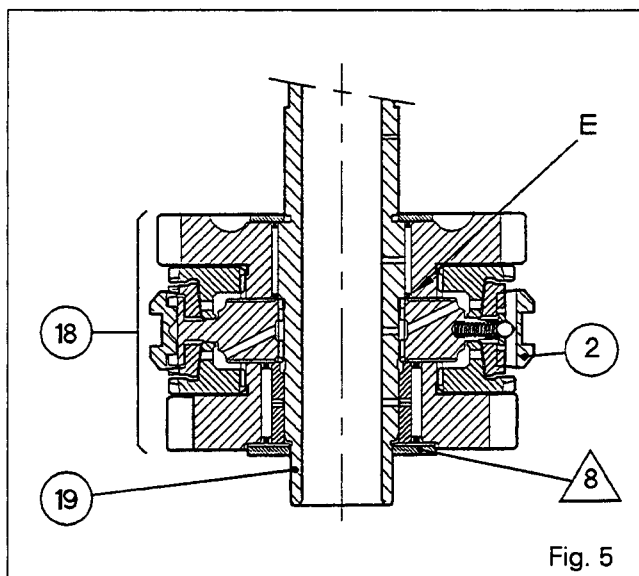
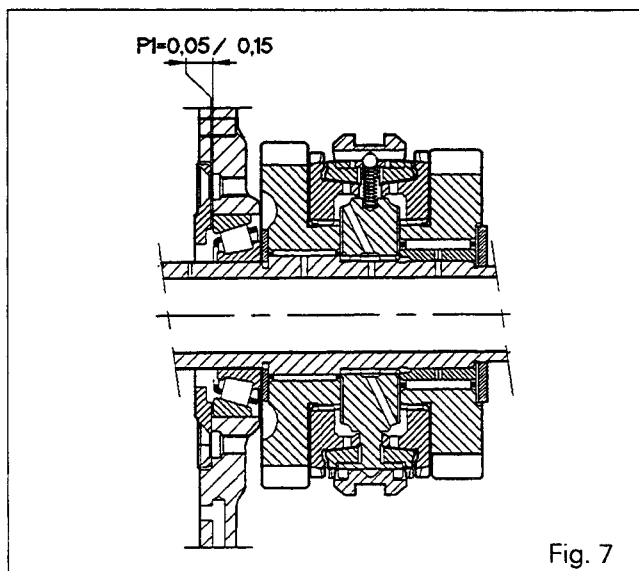

Fig. 5
Fig. 7
28. Centre the friction washer /8\. Passing via the bore in the front of the unit, fit the secondary shaft (19) in the gear/synchromesh assembly (18), with shoulder «E» pressed against the synchromesh (2) (Fig. 5).
29. Position the cup (37) and the locking plate (25) without shims [1].
30. Fit the bolts (36) and tighten them to a torque of 36 to 46 Nm.
32. Carry out shimming (Fig. 7) to obtain preloading of:  $P1 = 0.05 / 0.15$